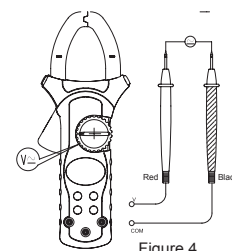

Figure 4
B. Measuring DC Voltage (See Figure 4)
C. Measuring AC Voltage (See Figure 4)